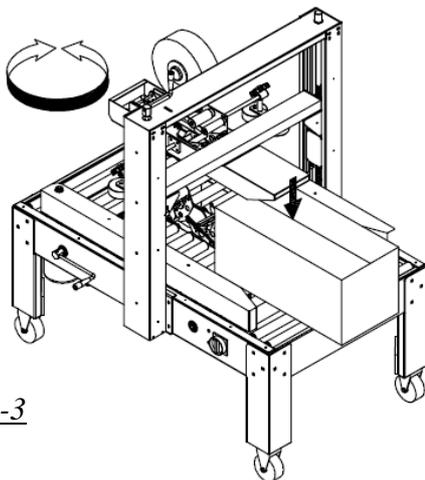

Figure 2-3
3. Adjust the upper taping head to meet the different cartons height. Please refer to Figure 2-3.